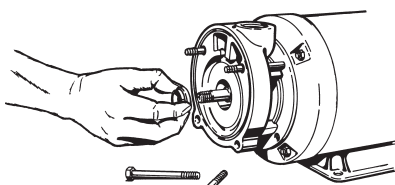

Figure 4-14
- a. While holding the motor bracket with the outlet port facing up, slide the bracket over the two (2) studs (#18) on the motor face.
- c. Install the four (4) "O" rings (#8) on the two studs. This will help hold the bracket in place during the remainder of the assembly operation.
- c. It is generally easier to remove the entire head or sealing assembly from the spring and install it on the motor shaft. Refer to Figure 4-14. This assembly lifts out of the rotating element spring.
- e. Holding the head assembly between the thumb and index finger, with the sealing face pointing toward the stationary seat, slide the assembly over the motor shaft until it rests against the seat. Refer to Figure 4-14. A slight twisting motion will allow the assembly to slide more easily.